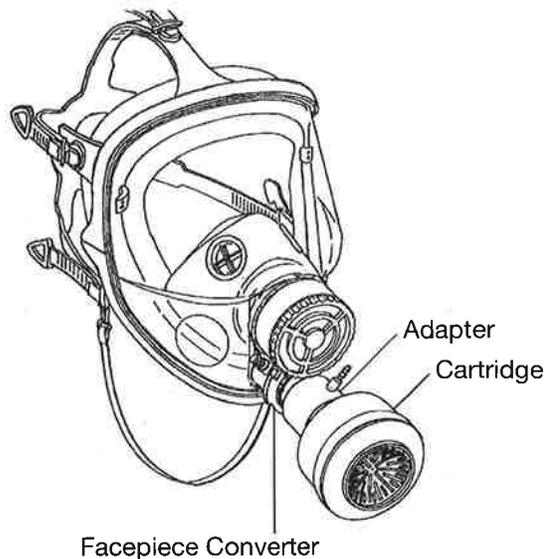

Figure 5
- 5) Screw onto the Adapter a North cartridge appropriate for use against the challenge agent specified in the quantitative fit-test protocol to be used (See Figure 5).